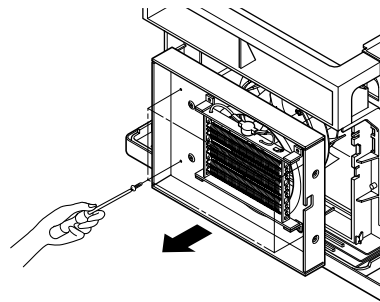

FIG. 5
6. Remove the 4 screws which fasten the orifice. (See Fig. 5)
7. Remove the orifice. (See Fig. 5)